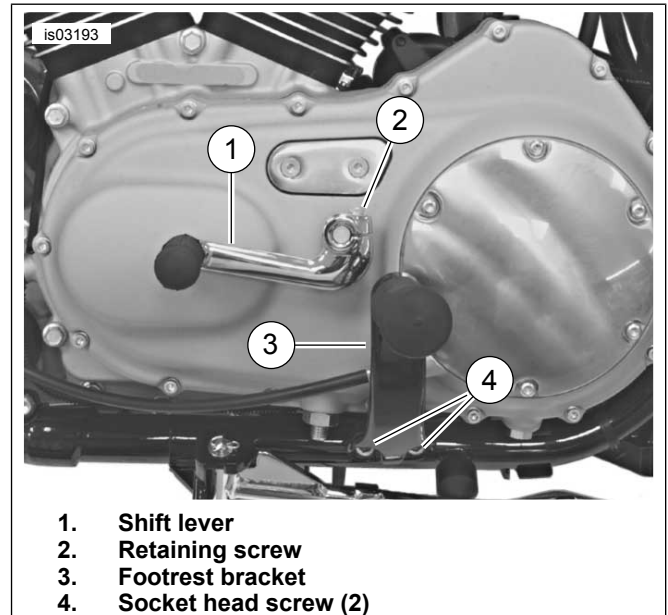

Figure 1. Remove Shift Lever and Footrest
1. See Figure 1. Loosen the shift lever retaining screw (2) securing the shift lever (1) to the shifter shaft. Slide the shift lever off the splined shaft. Remove shifter peg from lever and save for installation. Discard shift lever.
2. Remove the two socket head screws (4) securing the footrest bracket (3) to the frame and remove footrest. Discard screws.